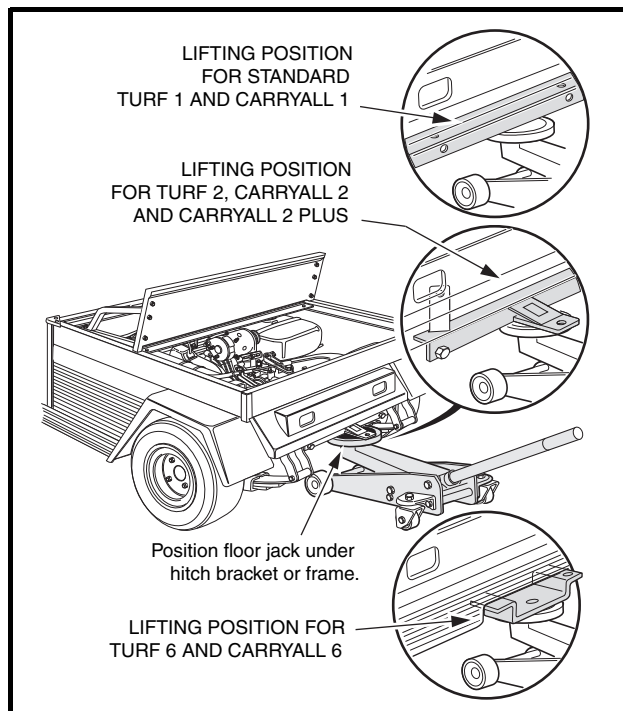

Figure 9-2 Lift Vehicle
2. Place chocks at the front wheels and lift rear of vehicle with a chain hoist or floor jack (**Figure 9-2, Page 9-2**). Position jack stands under the frame crossmember between the rear leaf spring front frame mount and the side stringer, just forward of each rear wheel. Lower the vehicle to let the jack stands support the vehicle. See **WARNING "Lift only one end of the vehicle..."** in General Warning, Section 1, Page 1-1.